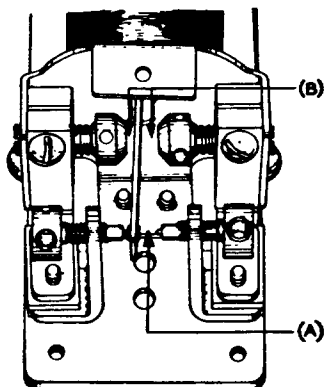

Fig. 104 — 231 Type Relay
1.06 **Contact Travel** — Fig. 104 (A): Min. .004", max. .006". Check travel on each contact screw. A difference indicates buildup on contact on side of armature having smaller travel. Remove buildup. 74D gauge.
1.09 Magnetic Air-Gap — Fig. 104 (B)